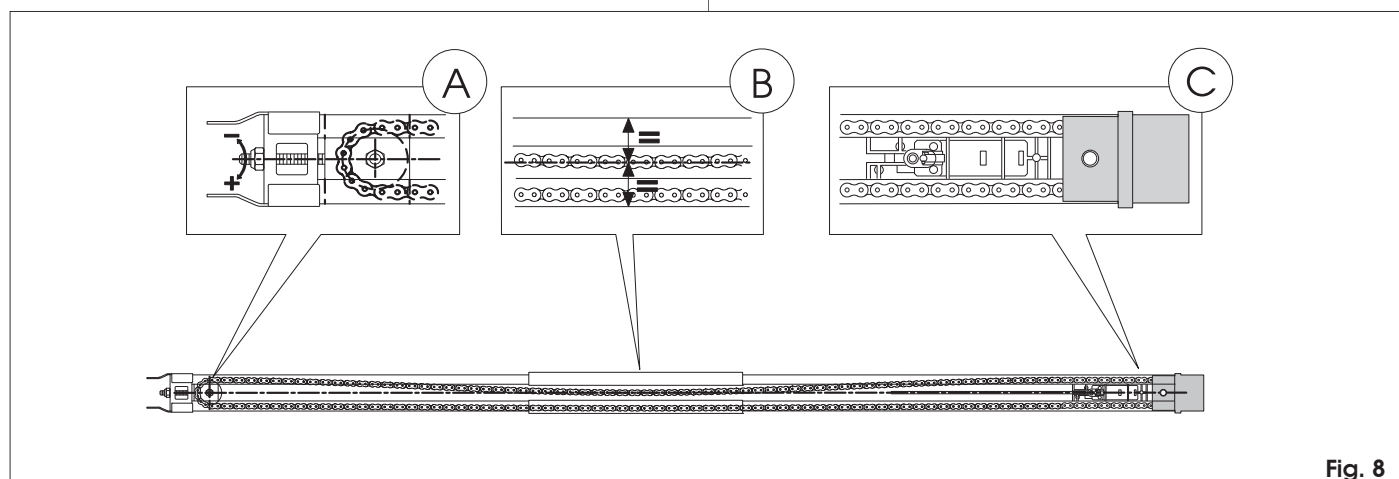

Fig. 8
- 5) Place the sliding guide on the side (Fig. 8).
- 6) Push the carriage toward the drive clutch unit (Fig. 8 ref. C.).
- 7) Adjust the tensioner (fig. 8 ref. A) so that the central zone of the loop, formed by the top branch of the chain, coincides with about the mid-point of the sliding guide (Fig. 8 ref. B).